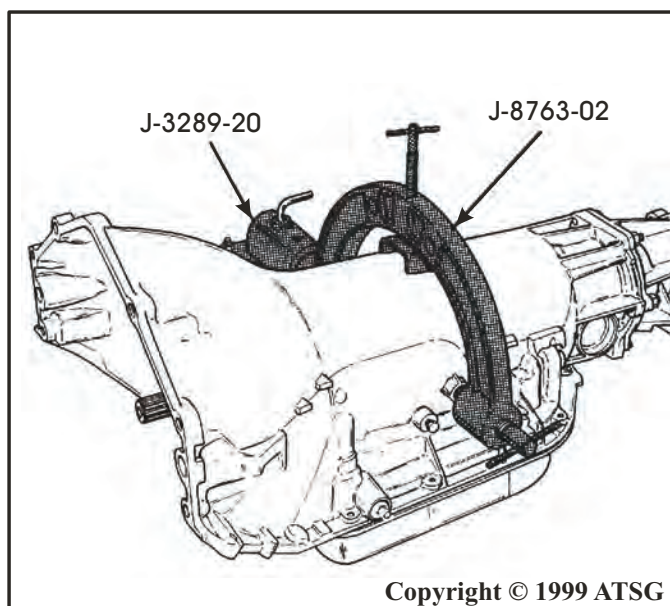

Figure 132
80. Remove transmission assembly from fixture, as shown in Figure 132.